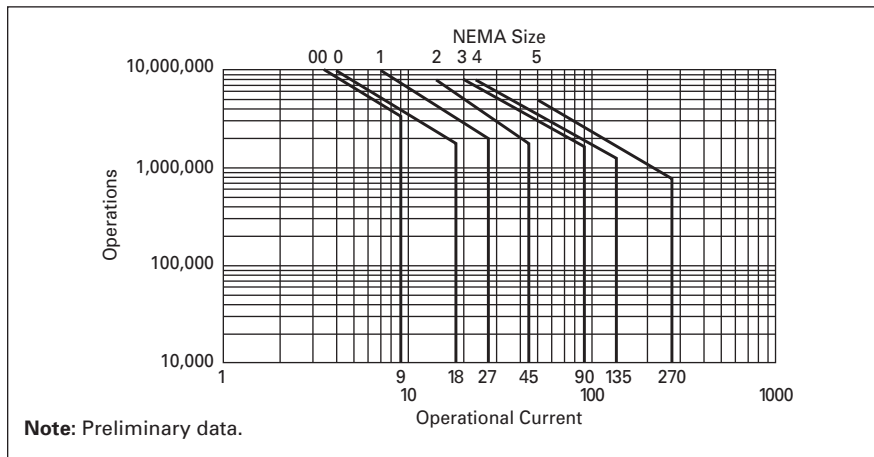
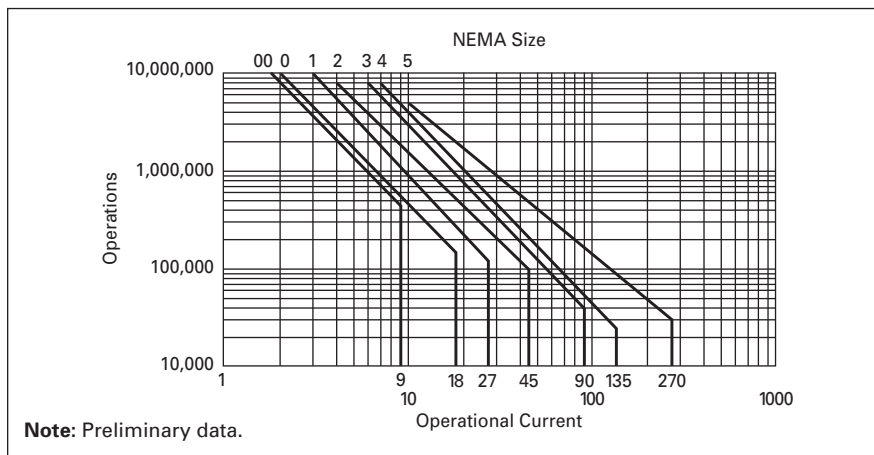

Figure 33-1. Electrical Life — AC-3 Utilization Category
Figure 33-2. Electrical Life — AC-4 Utilization Category
- Decide what utilization category the application is and choose the appropriate curve from Figure 33-1 or Figure 33-2.